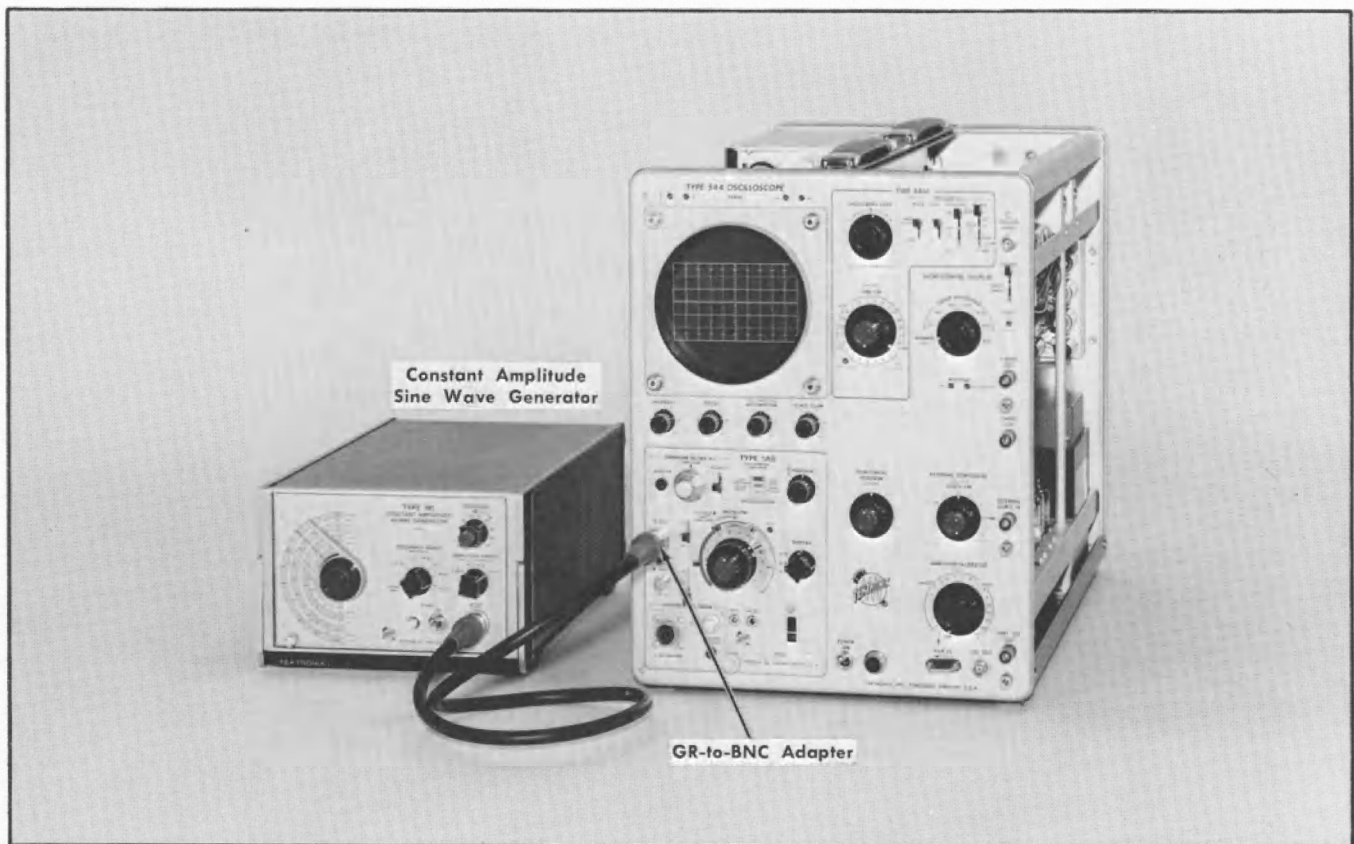

Fig. 6-27. Equipment setup for steps 23 and 24.
- Equipment setup is shown in Fig. 6-27.
- a. Equipment setup is shown in Fig. 6-27.
- (1) Set the VOLTS/CM control to indicated setting.
- (2) Set the Constant Amplitude Signal Generator frequency to 50 kHz and adjust its amplitude to provide 4 cm display amplitude.
- (3) Set the frequency of the Constant Amplitude Signal Generator to the value opposite the applicable VOLTS/CM setting in Table 6-9.